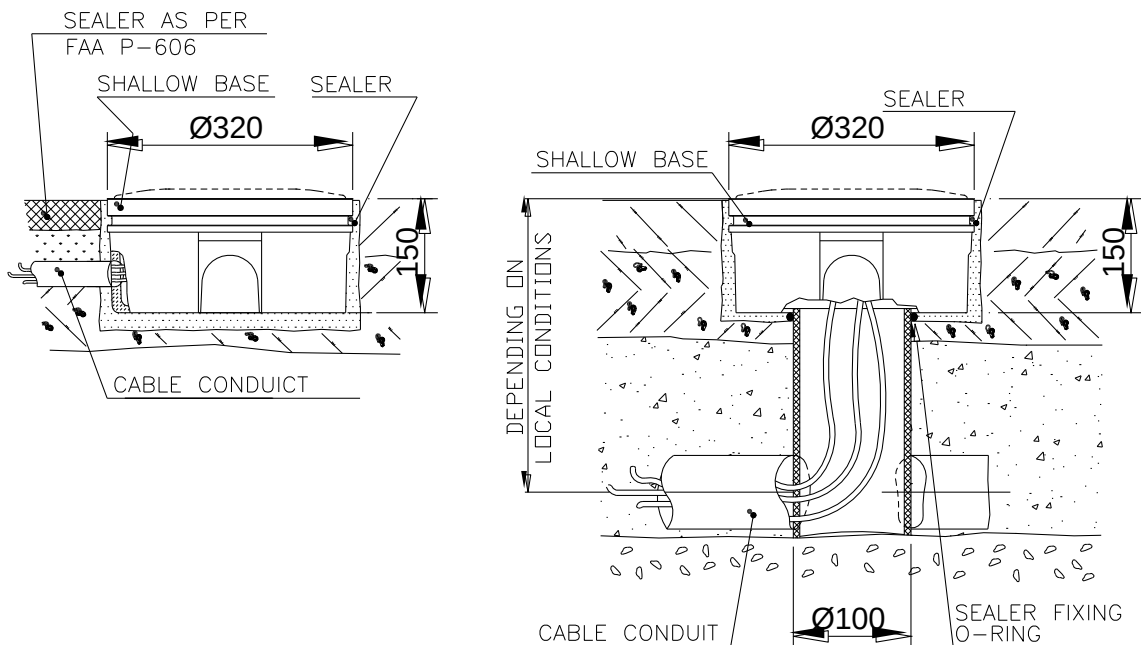

Figure 15 – 12" shallow base for side or bottom ducts (method "B")
- ▣ Method "B" – cable leads to be laid in cable ducts (Figure 15)